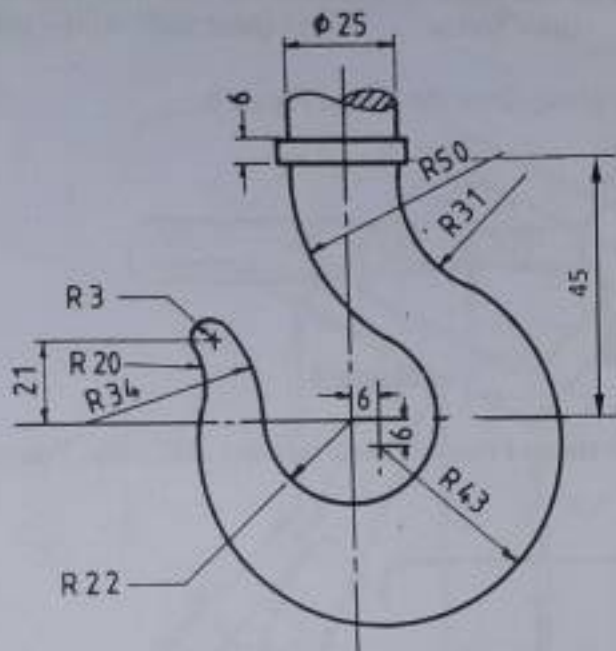

Figure 2
2. Figure 2 shows the elevation of crane hook. Draw the elevation showing clearly the various constructions used to position the centre of arcs. (20 marks)